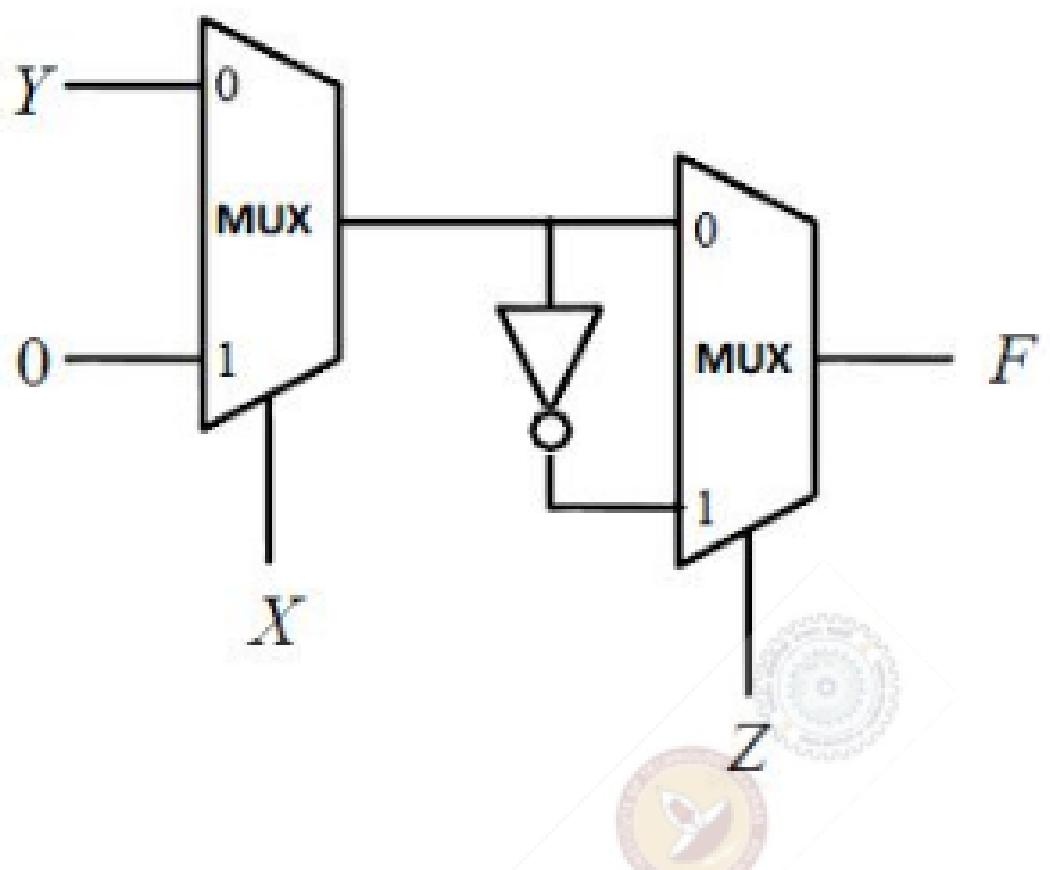

Figure 3.8:
21. Find the logic function implemented by the circuit given below in Fig. 3.8 (GATE EC 2017)